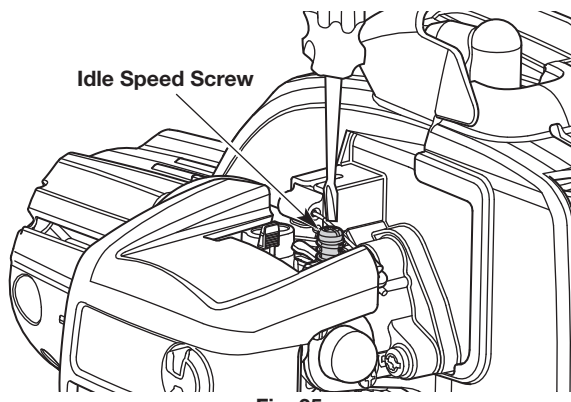

Fig. 35
The idle speed of the engine is adjustable. An idle adjustment screw is between the air filter cover and the engine starter housing (Fig. 35).
2. Release the throttle trigger and let the engine idle. If the engine stops, insert a small Phillips screwdriver into the idle adjustment screw (Fig. 35). Turn the idle speed screw **clockwise** 1/8 of a turn at a time (as needed) until the engine idles smoothly.